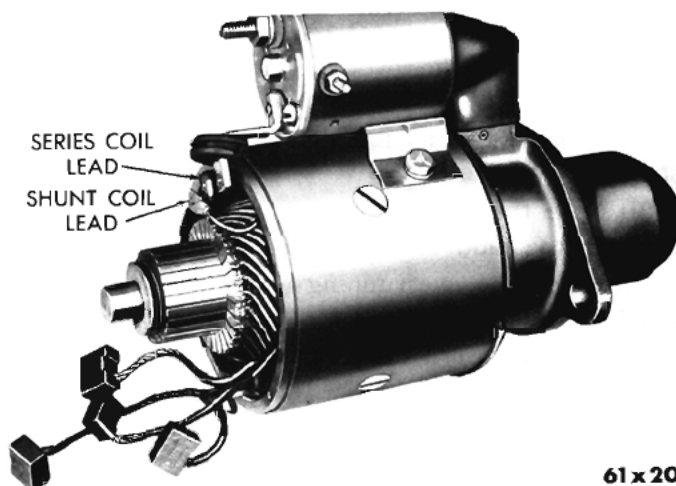
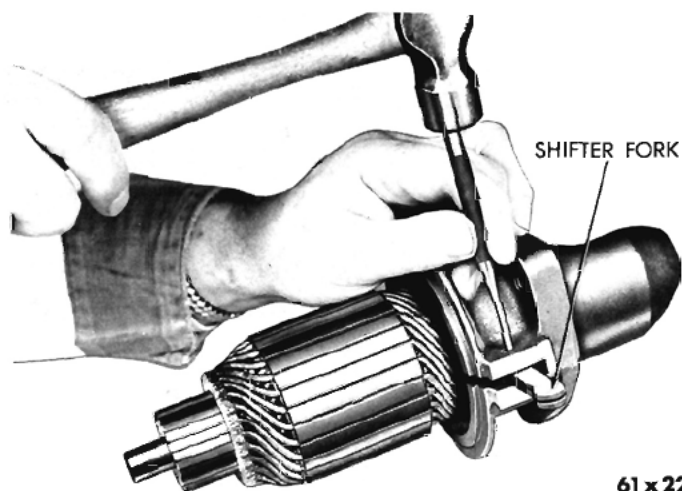
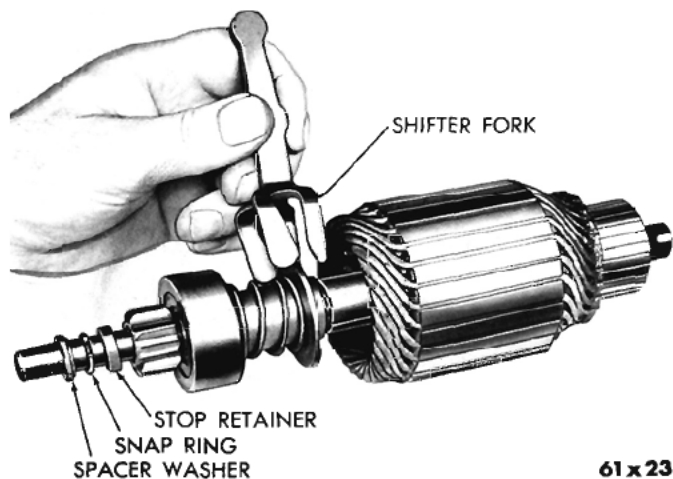
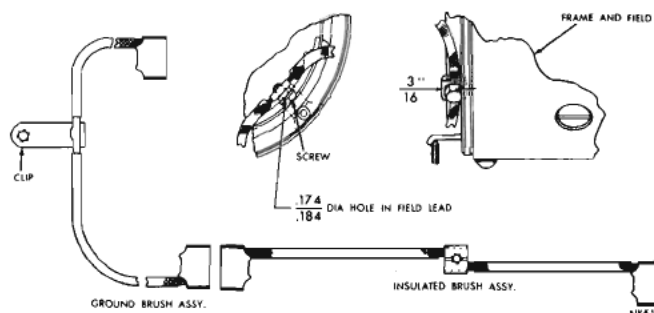

Fig. 3—Field Coil Leads Disconnected from the Solenoid Connector
Fig. 5—Removing the Shifter Fork Pivot Pin
Fig. 6—Removing the Shift Fork
Fig. 7—Brush Replacement
- (5) Disconnect the field coil leads at the solenoid connector (Fig. 3).
- (6) Remove the solenoid attaching screws and re-
(7) Drive out the overrunning clutch shift fork pivot pin (Fig. 5).
(8) Remove the drive end pinion housing and the spacer washer.
(9) Note the position of the shifter fork on the starter drive and remove the shifter fork (Fig. 6).
(10) Slide the overrunning clutch pinion gear toward the commutator end of the armature, drive the stop retainer toward the clutch pinion gear to expose the snap ring and remove the snap ring.
(11) Slide the overrunning clutch drive from the armature shaft.
(12) If it is necessary to replace the field coils, remove the ground brushes terminal attaching screw and raise the brushes with the terminal and shunt wire up and away from the field frame (Fig. 7). Remove the pole shoe screws with the special pole shoe impact screwdriver, Tool C-3475.
(1) Brushes that are worn more than  $\frac{1}{2}$  the length of the new brush, or are oil-soaked, should be replaced. The brushes and springs can be replaced after removing the commutator end head and the brush plate.
(2) Disengage the brushes from the brush holders and remove the brush plate.
(3) Disconnect the series coil and the shunt field coil terminal at the solenoid connector (Fig. 3).
(4) Remove the ground brush terminal screw and carefully remove the ground brush set to prevent breaking the shunt field lead.
(5) Remove the shunt field lead from the old brush set to ensure as much length as possible.
(6) Remove the field terminal plastic covering and remove the old brushes. Use side cutters to break the weld by rolling the stranded wire off the terminal.
(7) Drill a .174 to .184 inch hole in the series coil terminal  $\frac{3}{16}$  of an inch from the top of the terminal to the centerline of the hole, (Fig. 7). (Use a number 16 drill.)
(8) Attach the insulated brush set to the series field terminal with the flat washer and the number 8 self-tapping screw.
(9) Attach the shunt field lead to the new ground brush set by making a loop around the terminal and soldering the lead to the terminal with resin core solder.
(10) Attach the ground brush terminal to the field frame with the attaching screw. Fold the surplus shunt field lead back along the brush lead and secure with rubber insulating tape.
(11) Measure the brush spring tension with a spring scale hooked under the spring near the brush end. Pull the scale on a line parallel to the edge of the brush and take a reading just as the spring end leaves the brush. The spring tension should be 32 to 36 ounces. Replace the springs that do not meet specifications.
(12) Brush springs can be removed by spreading the retainers and disengaging the springs from the retainer legs.